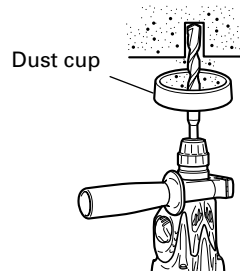
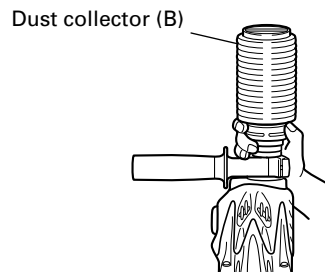

Fig. 4
Fig. 5
7. Installation of dust cup or dust collector (B) (Optional accessories) (Fig. 4, Fig. 5)
Use the dust cup by attaching to the drill bit as shown in Fig. 4.
When using dust collector (B), insert dust collector (B) from the tip of the bit by aligning it to the groove on the grip (Fig. 5).